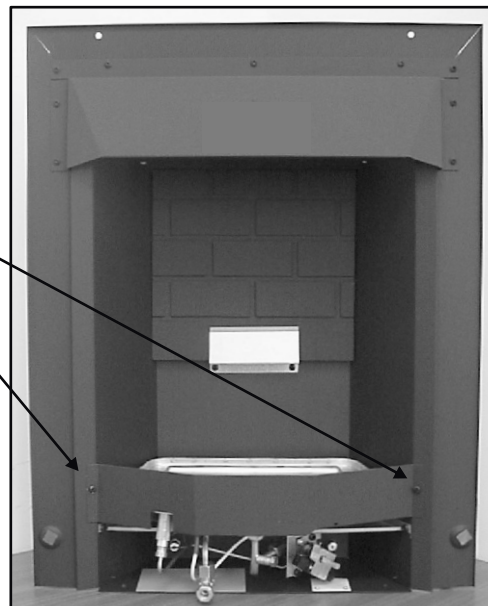

Fig 11a.
- 6.2.2 Remove the fender mask by removing the two screws. Refer to Fig 11a.